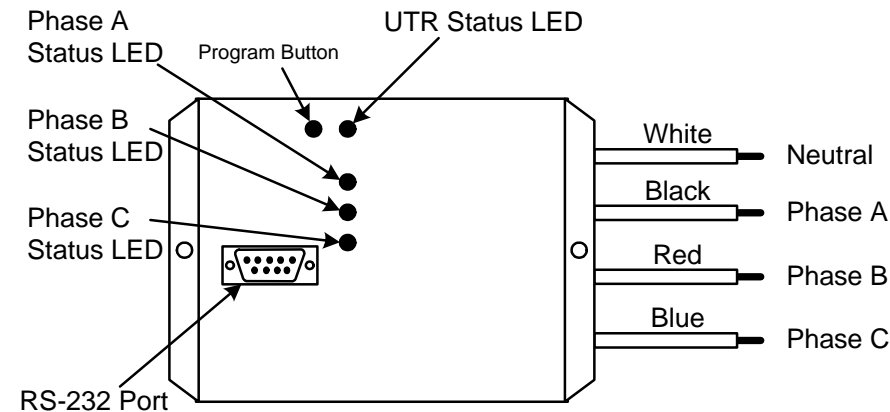
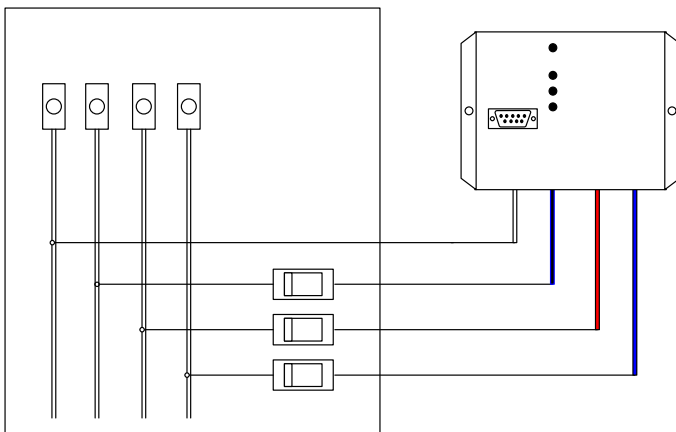

Figure 1: UTR Three-Phase Repeater
Figure 2: Wiring Diagram
The UTR 3-Phase Repeater (Figure 1) is specifically designed to repeat a UPB™ message onto each 120 V electrical phase of a standard 3 Phase AC powerline where the phases are separated by 120°. The UTR is capable of receiving a UPB™ message on one of the AC electrical phases and repeating it onto all three AC electrical phases. The UTR 3-Phase Repeater also provides a RS-232 serial interface that can be used to transmit and receive UPB™ messages from a host computer or home automation controller.
1. Refer to Figure 1 and Figure 2 to determine the wire colors of the hook-up.
2. Connect the UTR 3-Phase Repeater to the following electrical wires (see Figure 2 for reference):
8. Restore power. Verify that the UTR Status LED indicator is solid orange (see Figure 1 for reference).